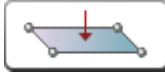

Figure 2.15 **Define loads** dialog box
- ⇒ In the **Define loads** dialog box (see Fig.2.15), specify **Global** coordinate system and direction along the **Z**-axis (default parameters).
- ⇒ In the **Define loads** dialog box (see Fig.2.15), select **Loads on plates** tab  and specify **Global** coordinate system and direction along the **Z**-axis (default parameters).